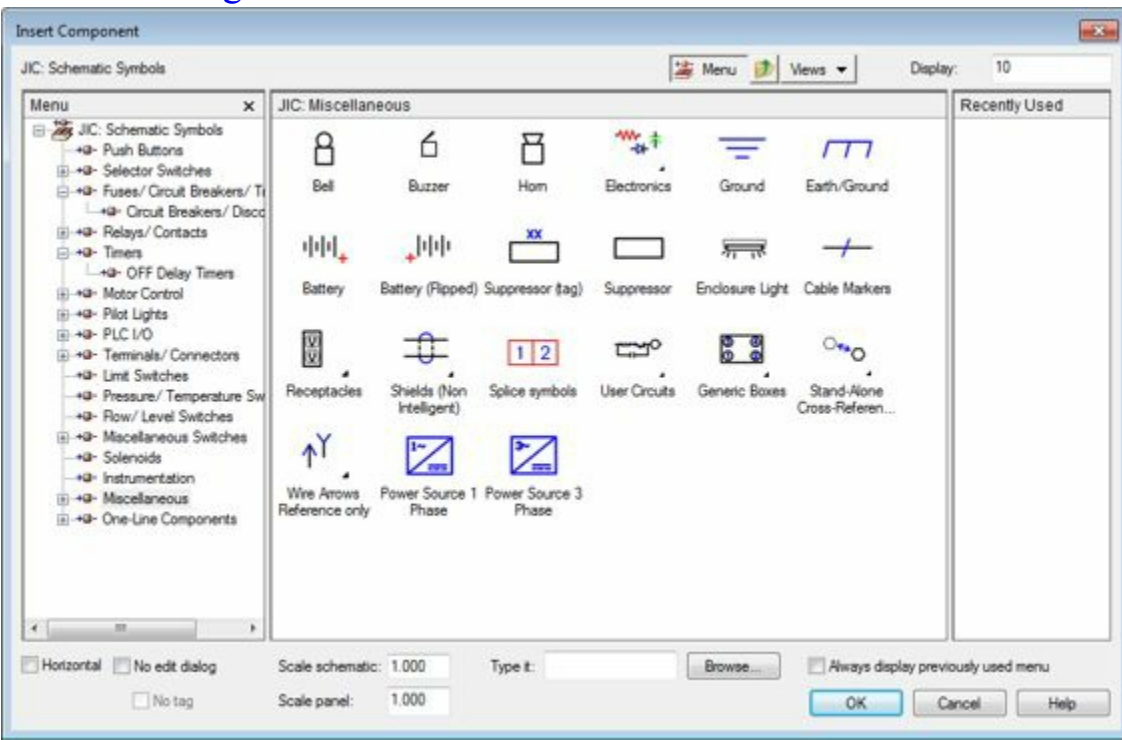

Figure-13. Miscellaneous components
- Click on the **Miscellaneous** category from the dialog box. The components will be displayed as shown in Figure-13.